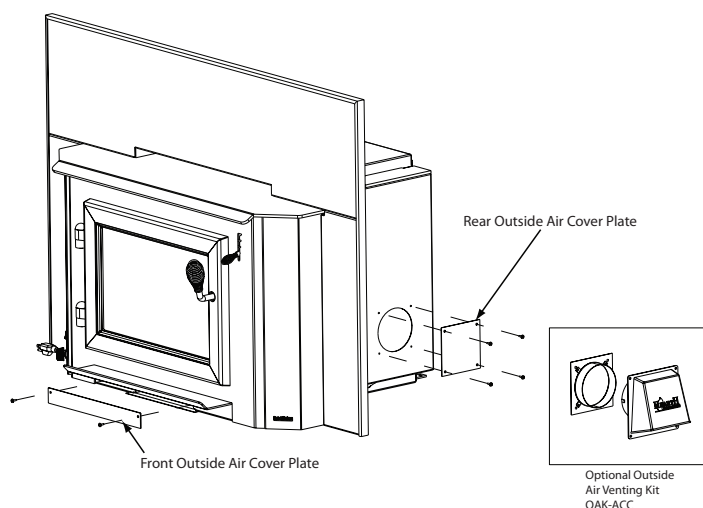

Figure 39.1
1. Remove the Rear Outside Air Cover Plate on outer can and discard and reuse 2 screws (**Figure 39.1**).
5. Remove the outside air cover plate B on outer can and discard (**Figure 39.1**).